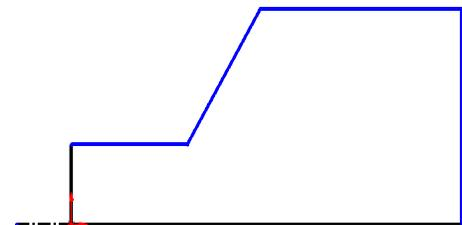

Fig. 3
Step 6. Sketch a **short horizontal centerline** out from the **Origin** , **Fig. 3**.